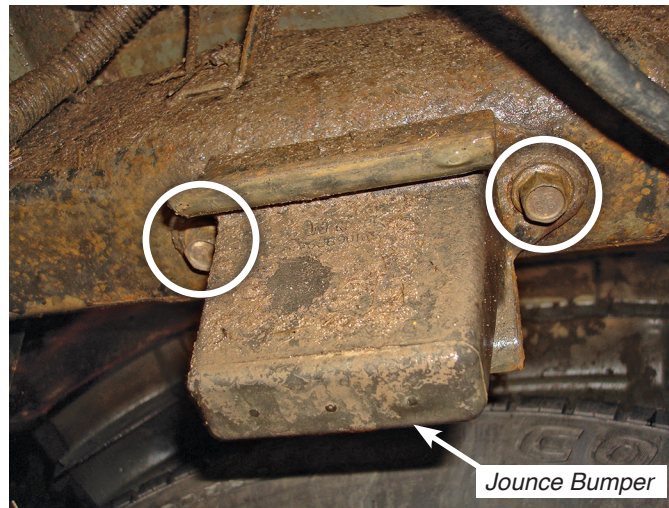

fig. 3
3. Remove the Jounce Bumper from under the frame rail (fig. 3).